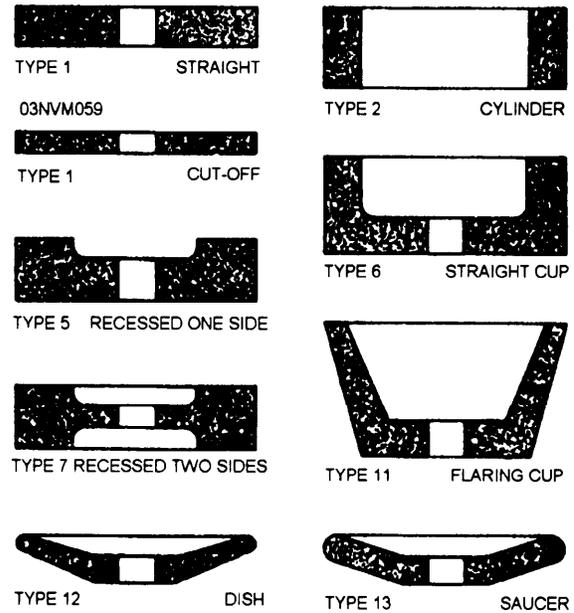

Figure 5-59.—Grinding wheel shapes.
**SIZES AND SHAPES.**—Grinding wheels come in various sizes and shapes. The size of a grinding wheel is given in terms of its diameter in inches, the diameter of its spindle hole, and the width of its face. Grinding wheels have too many shapes to list in this manual, however, figure 5-59 shows those used most often. The type numbers are standard and are used by